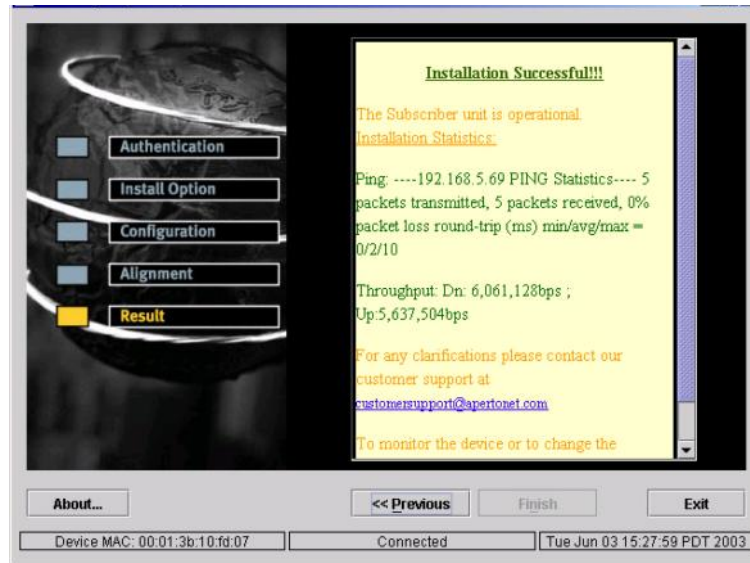

Figure 5-16 Installation Results Window
- f. When the throughput test is finished or stopped, the window shown in Figure 5-16 is displayed, showing results of the ping and throughput tests.
NOTE: This window is the same as the Installation Results window shown in Figure 5-16 on page -16.